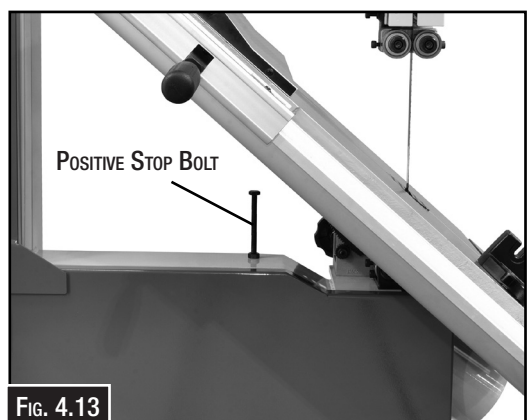

FIG. 4.13
5. Adjust the positive stop bolt to the table. (Fig. 4.13)